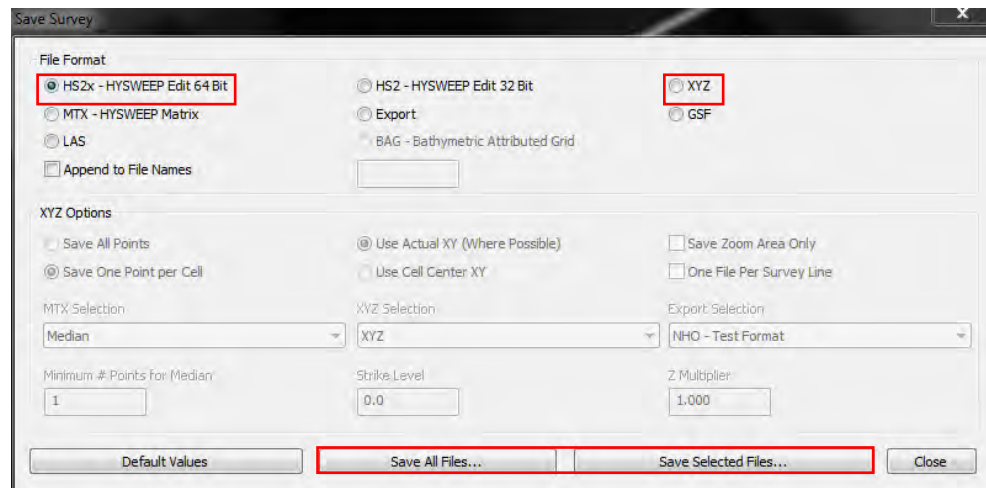

Figure 62: HySWEEP saving formats
- ⇒ File -> Save Survey (Figure 62)